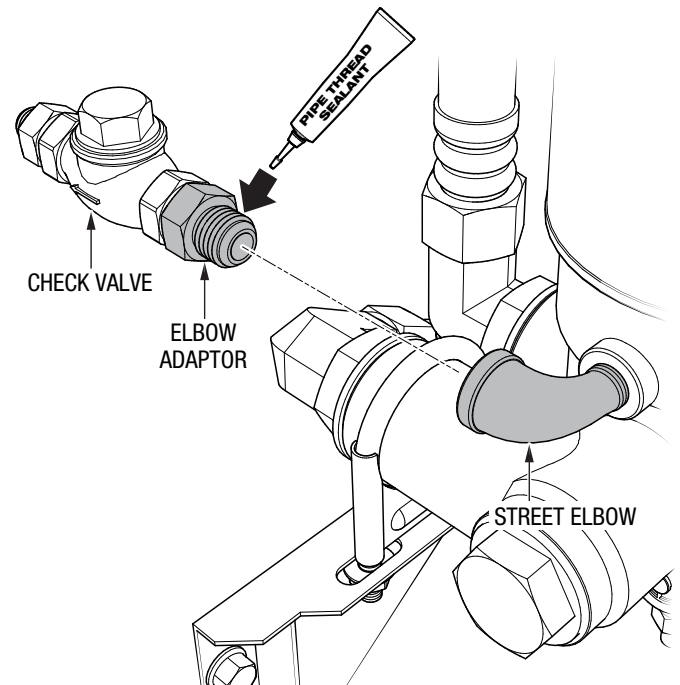

Figure 19. Check Valve Assembly Installation
- Apply a small amount of pipe thread sealant to the male threads on the elbow adaptor (Figure 19).
- Insert the elbow adaptor end of the check valve assembly into the female end of the street elbow (P/N 0130202000), and tighten securely. See Figure 19.